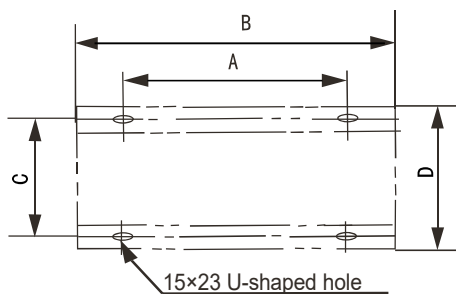

Fig. 4-12
- To ensure that all contact points are equally secure, bases should be completely level. Base design should ensure that the points on the units' bases designed for weight-bearing support are fully supported. Bolt spacings should be as per Figure 4-12 and Table 4-3.